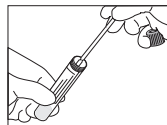
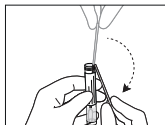
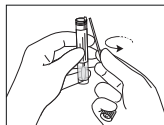

Fig. 2
Fig. 3a
Fig.3b
- **for swab with breaking point:** insert the swab into the tube until the breaking point reaches the level of the opening of the tube (Fig. 2). Bend and break the swab at the breaking point holding the tube away from the face. If needed gently bend the swab shaft up to 180 degrees angle and rotate the swab shaft to complete the breakage (Fig. 3a and Fig.3b). Discard the upper part of the swab shaft.